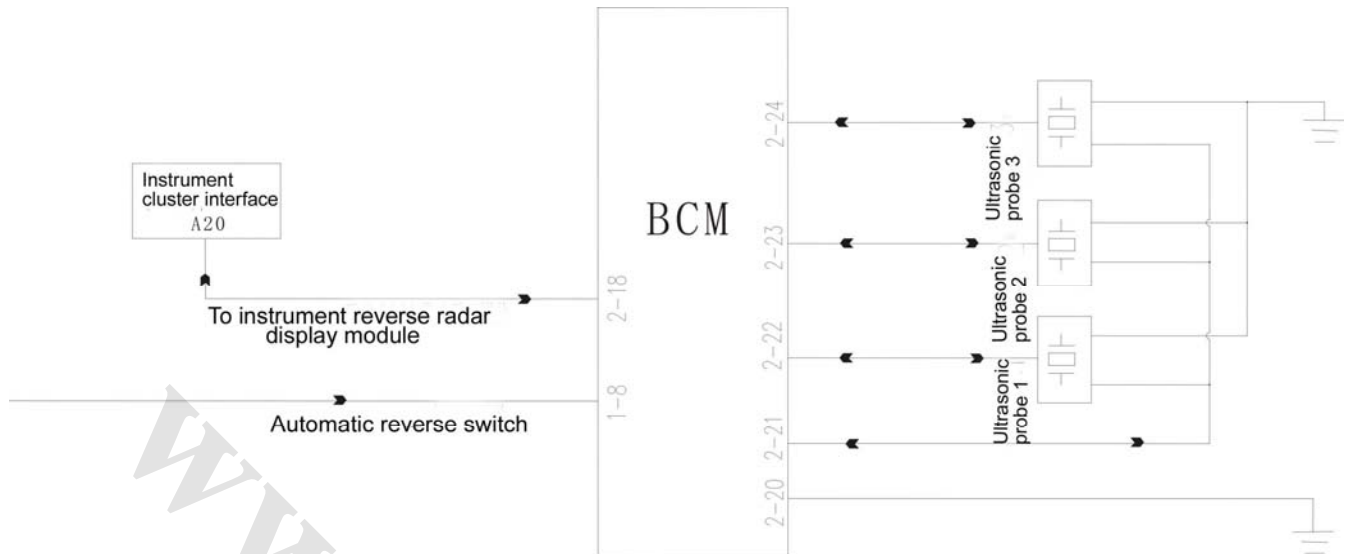

Fig. 4-112
**Check circuit** as shown in Fig. 4-112